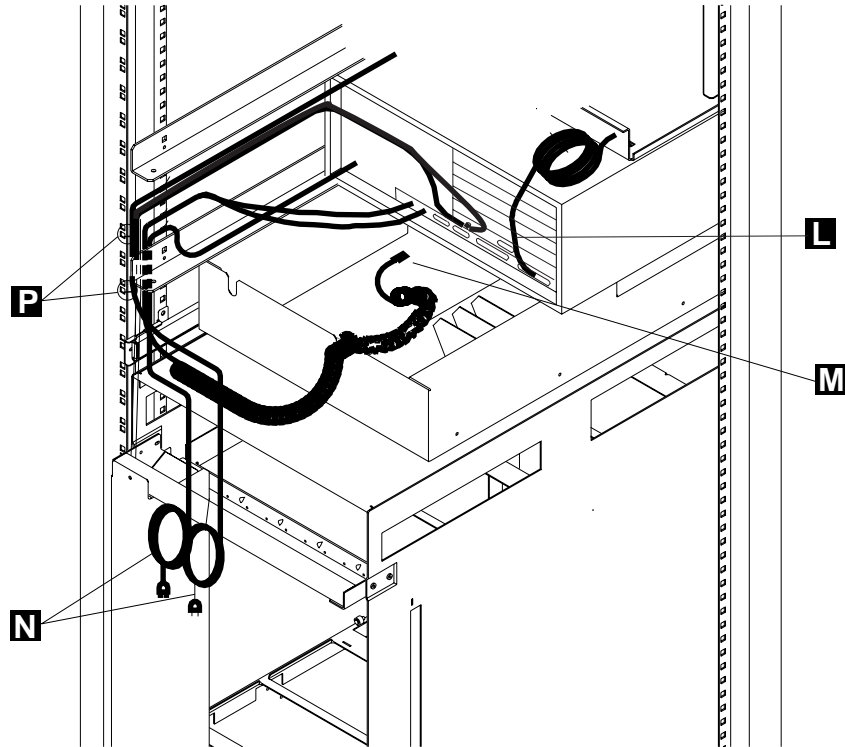
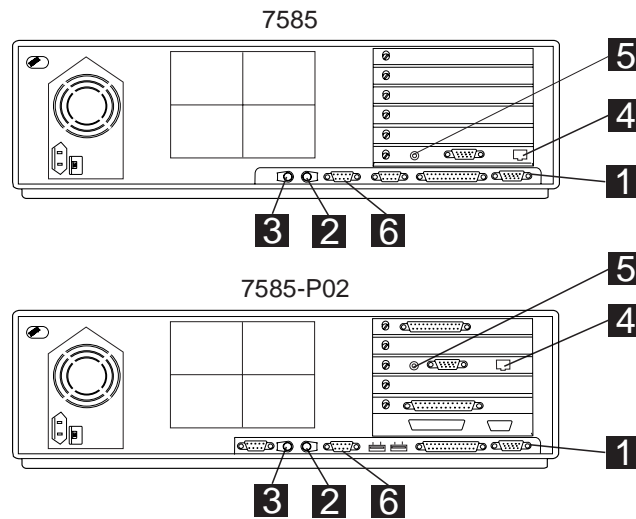

Figure 1-6. Display and Keyboard Cables Connection to the NAS
Figure 1-7. Cables Connection to the rear of the NAS
There are two types of NAS, **7585** and **7585-P02** (refer to Figure 1-7 on page 1-7). In the following chapters, refer to this drawing to identify the proper cables connection.
2. ____ At the rear of the rack, connect the display signal cable **L** to the NAS connector **1** (refer to Figure 1-6 on page 1-7 and Figure 1-7 on page 1-7).
3. ____ Locate the keyboard cable **M** in the service drawer and plug it to the keyboard port **2** (mouse) and **3** (keyboard) at the rear of the NAS (refer to Figure 1-6 on page 1-7 and Figure 1-7 on page 1-7).